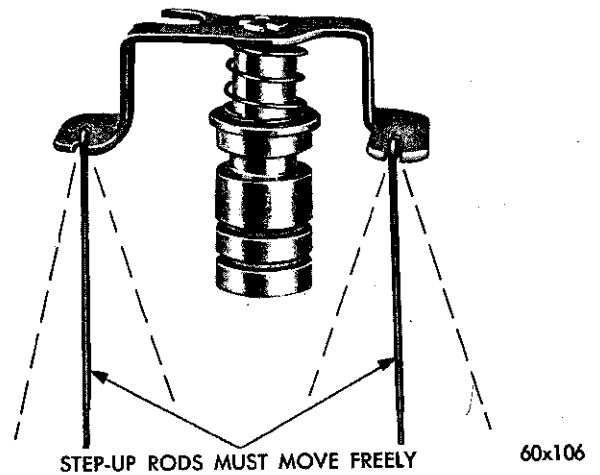

Fig. 7—Step Up Rods Free Play
(7) Before installing the step-up piston, be sure the step-up rods are able to move freely, each side of the vertical position, as shown in Figure 7. The step-up rods must be straight and smooth.